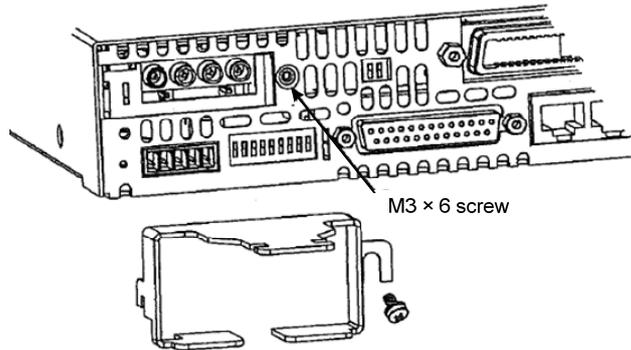

Fig.2-5: Shield assembly
4. Loosen the chassis screw marked “A” halfway as shown in Fig.2-5.